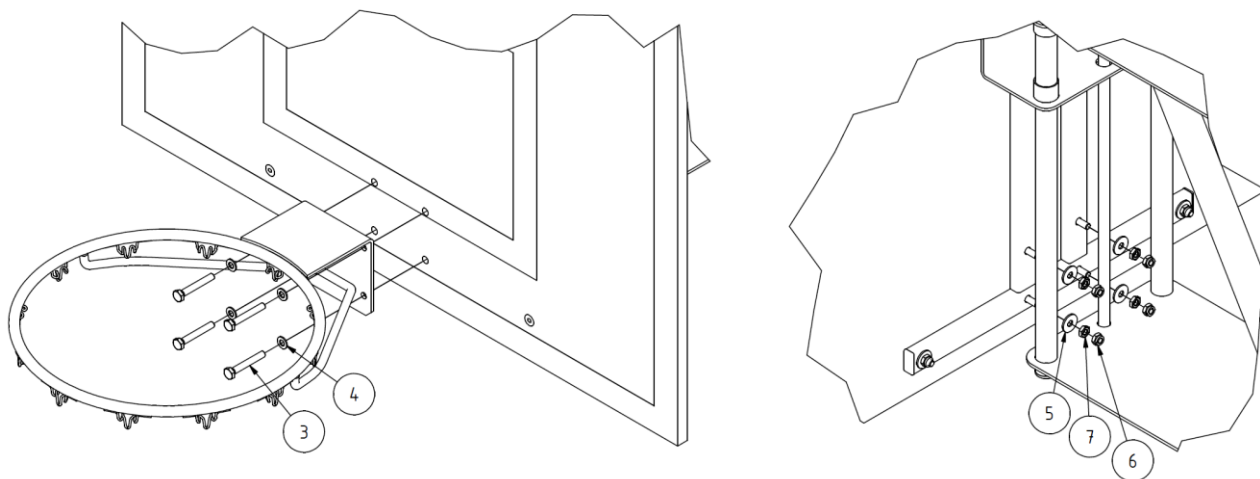

Figure 7: Attaching the hoop to the backboard
Insert the hex-head bolts ③ through the washers ④ and then through the holes in the hoop mount, backboard and wall mount ①, as shown in figure 7. Slide an extra-wide washer ⑤ over the end of the bolt ③ from the back and tighten with a thin nut ⑦, lock nut ⑥ and an SW17 spanner.